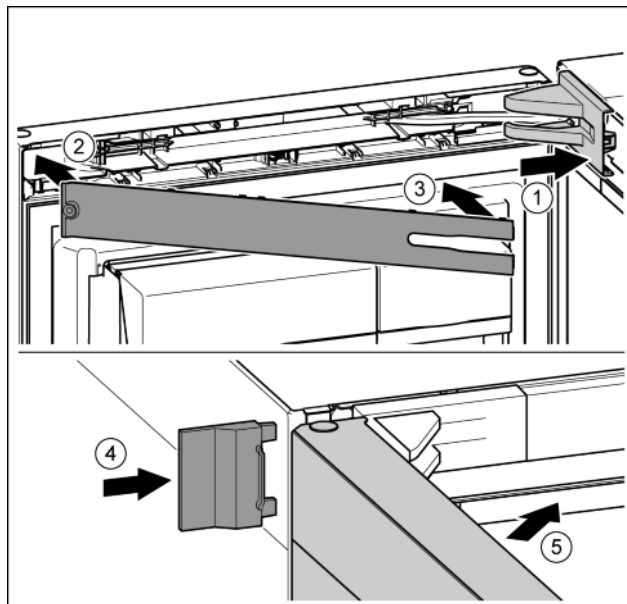

Fig. 26
- Position the bearing bracket and engage. If necessary push apart carefully. Fig. 26 (1)
- Position the panel. Fig. 26 (2)
- Swing in the panel and click into place. Fig. 26 (3)
- Slide on the external cover. Fig. 26 (4)
- Close the upper door. Fig. 26 (5)